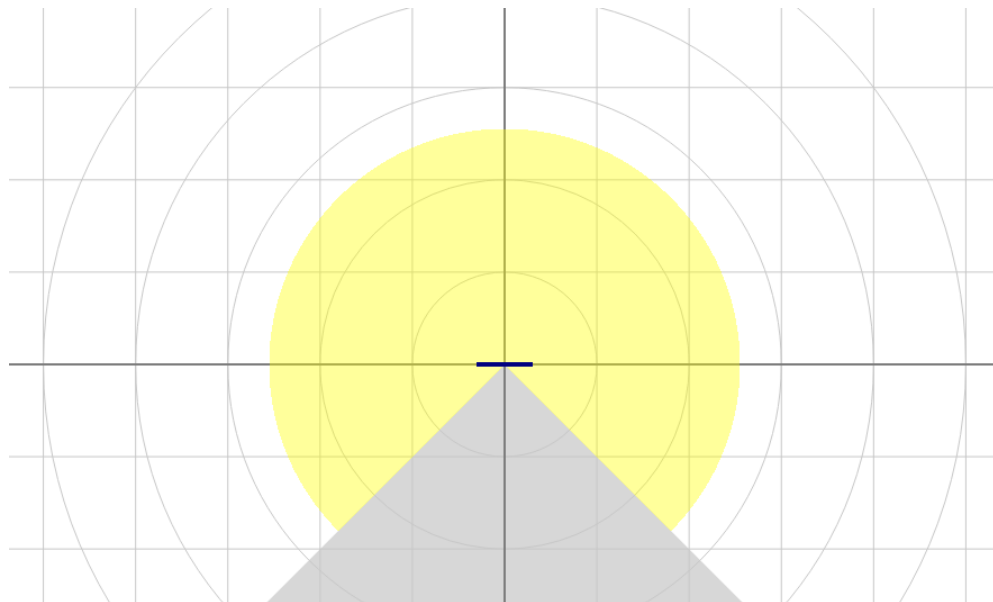

Figure 4.2.1.2.2 Default position of dependent offset bar
- ☐ It is possible to delete the offset value of the point by right-clicking the mouse when the offset bar is selected, or press delete or the backspace key on the keyboard. The offset bar as shown in figure 4.2.1.2.2. will be displayed in the default position of the coordinate origin.